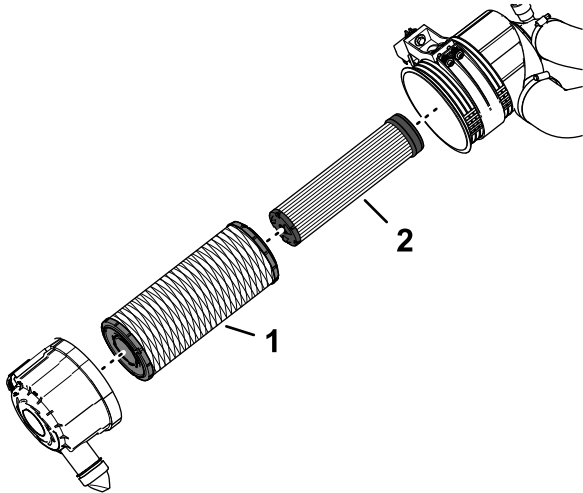

Figure 110
1. Check the safety-filter element (Figure 110). If it is dirty, replace it.
**Important:** Never attempt to clean the safety filter (Figure 110). Replace the safety filter with a new one after every 3 primary filter services.